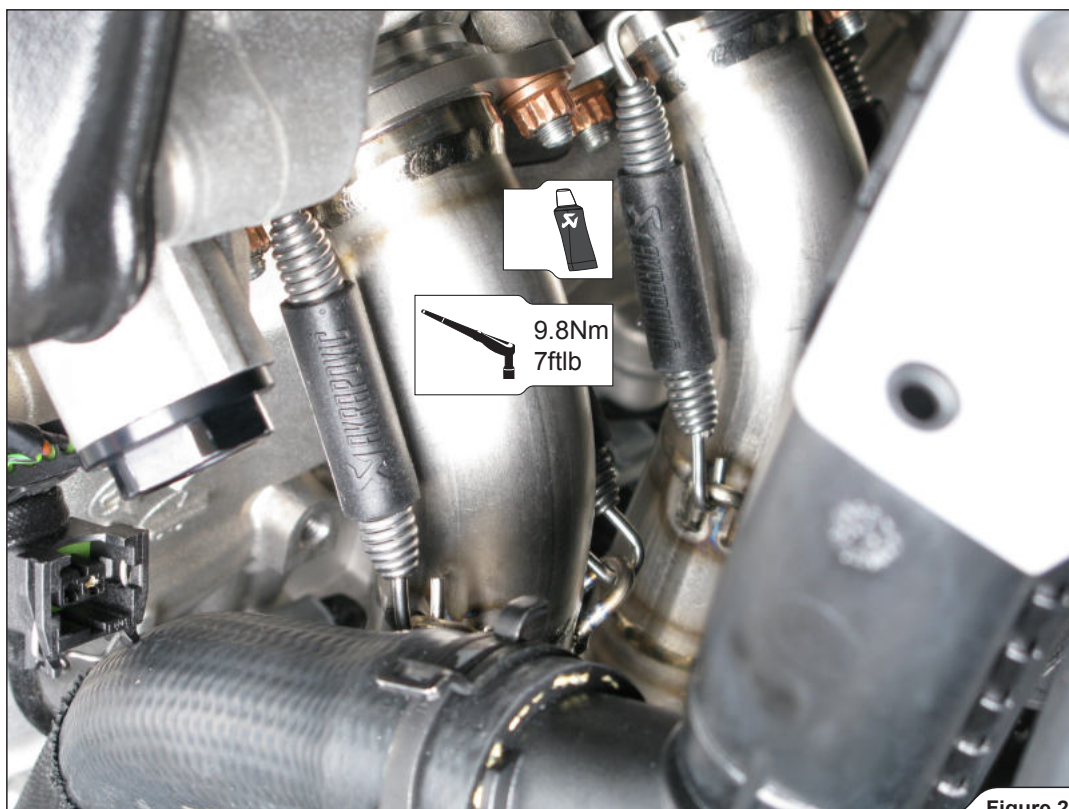

Figure 21
5. Insert the outer header tubes all the way into the sleeves, attach the springs and tighten the outer flanges to a specified torque (Figure 21).